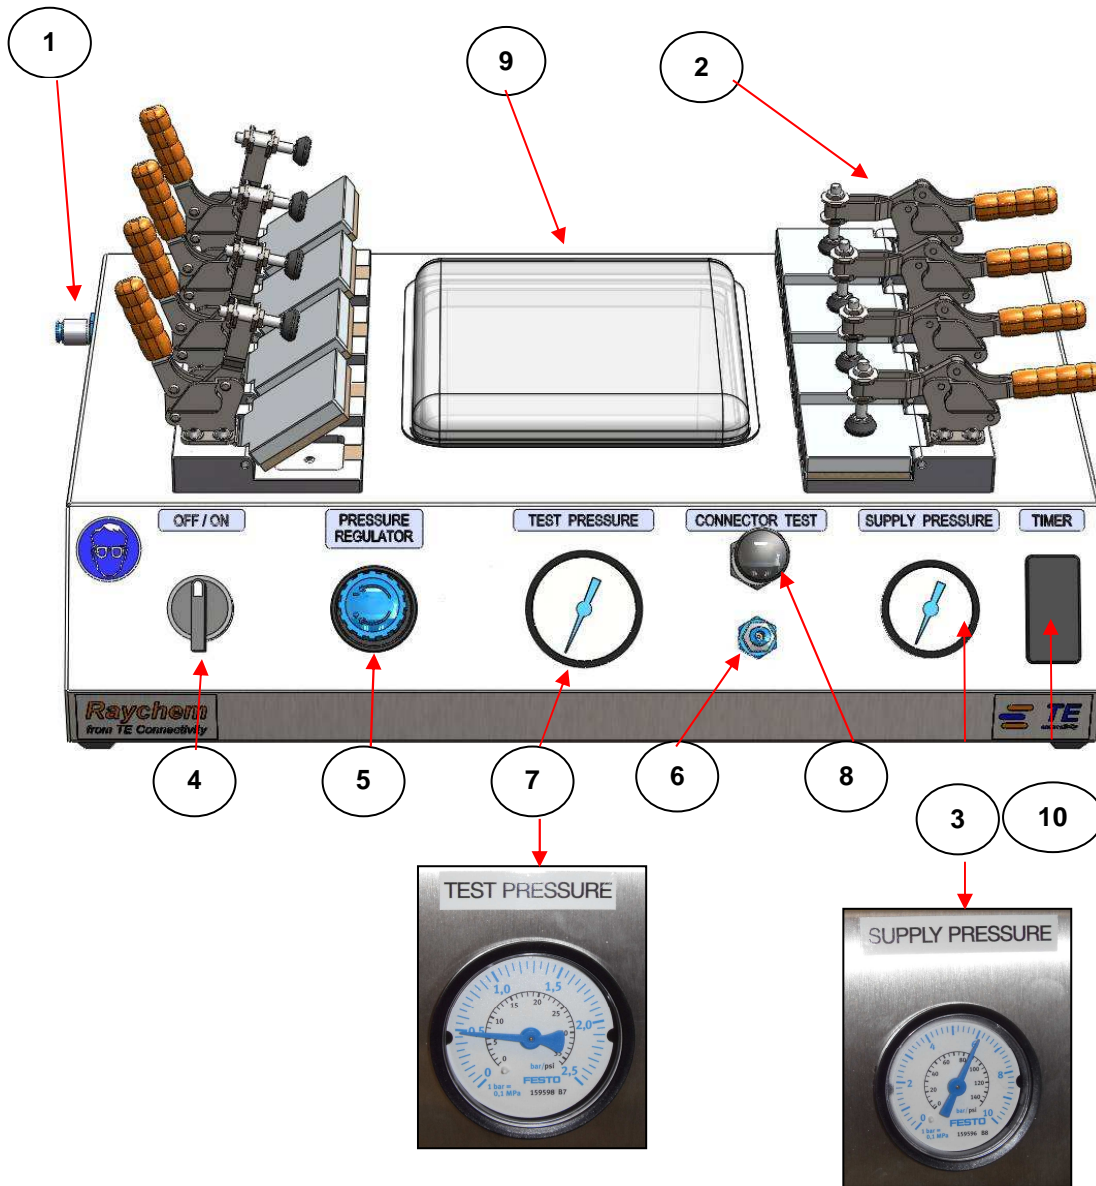

Figure 5. Front and top views
2.5 Connection to compressed air supply (Pos. 1 / see Figure 5)
Connector Test (Pos. 8 / see Figure 5)
Toggle Clamps (Pos. 2 / see Figure 5)
ON/OFF valve (Pos. 4 / see Figure 5)
Pressure Regulator (Pos. 5 / see Figure 5)
The Pressure Regulator is a panel mounted rotary control which restricts the air pressure supplied to the toggle clamps and to the Connector Test outlet. Turning this control clockwise increases the applied test pressure to a maximum of 2.5 bar (see Figure 5).
Test Pressure (Pos. 7 / see Figure 5)
This gauge is mounted centrally on the front panel and shows the air pressure after the Pressure Regulator, i.e. the test pressure applied to the wire ends on the test piece. This pressure is set by careful adjustment of the Pressure Regulator (see Figure 5).
Supply Pressure (Pos 3 / see Figure 5)
Mounted to the right of the front panel this gauge shows the input, unregulated, air pressure. The reading on this gauge is dependant on the input air pressure and cannot be adjusted by the AD-3050 controls (see *Figure 5*).
3.7 Emergency Stop (Pos. 4 / Figure 5)